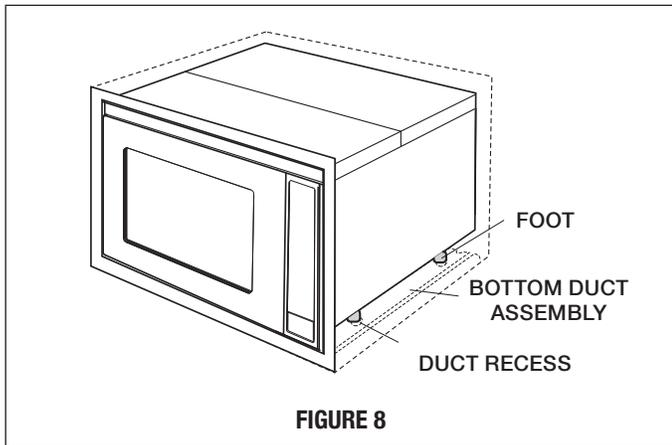

FIGURE 8
C. CABINET INSTALLATION: Avoid pinching the cord between the oven and the wall. Adjust the position of the oven so that the feet of the oven are fitted into the holes of the **BOTTOM DUCT ASSEMBLY**. See Figure 8.